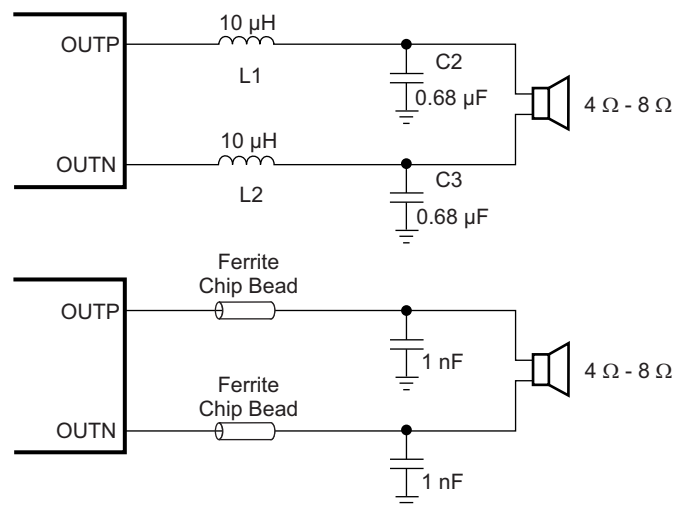

Figure 31. Output Filters
- **Output filter** — The ferrite EMI filter (see Figure 31) should be placed as close to the output terminals as possible for the best EMI performance. The LC filter should be placed close to the outputs. The capacitors